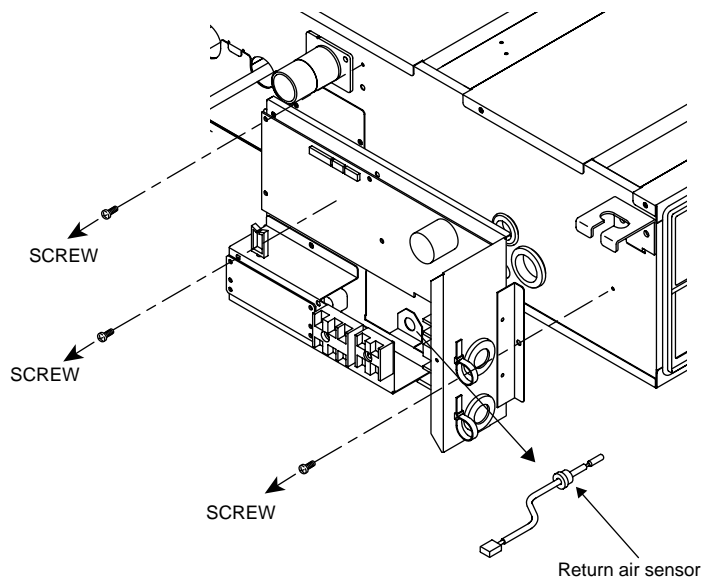

Fig. 3
- (3) Remove the CONTROL BOX from the unit by unscrewing the three screws on the unit. (Fig. 3)
- (4) Remove the return air sensor from the control box. (Fig. 3)